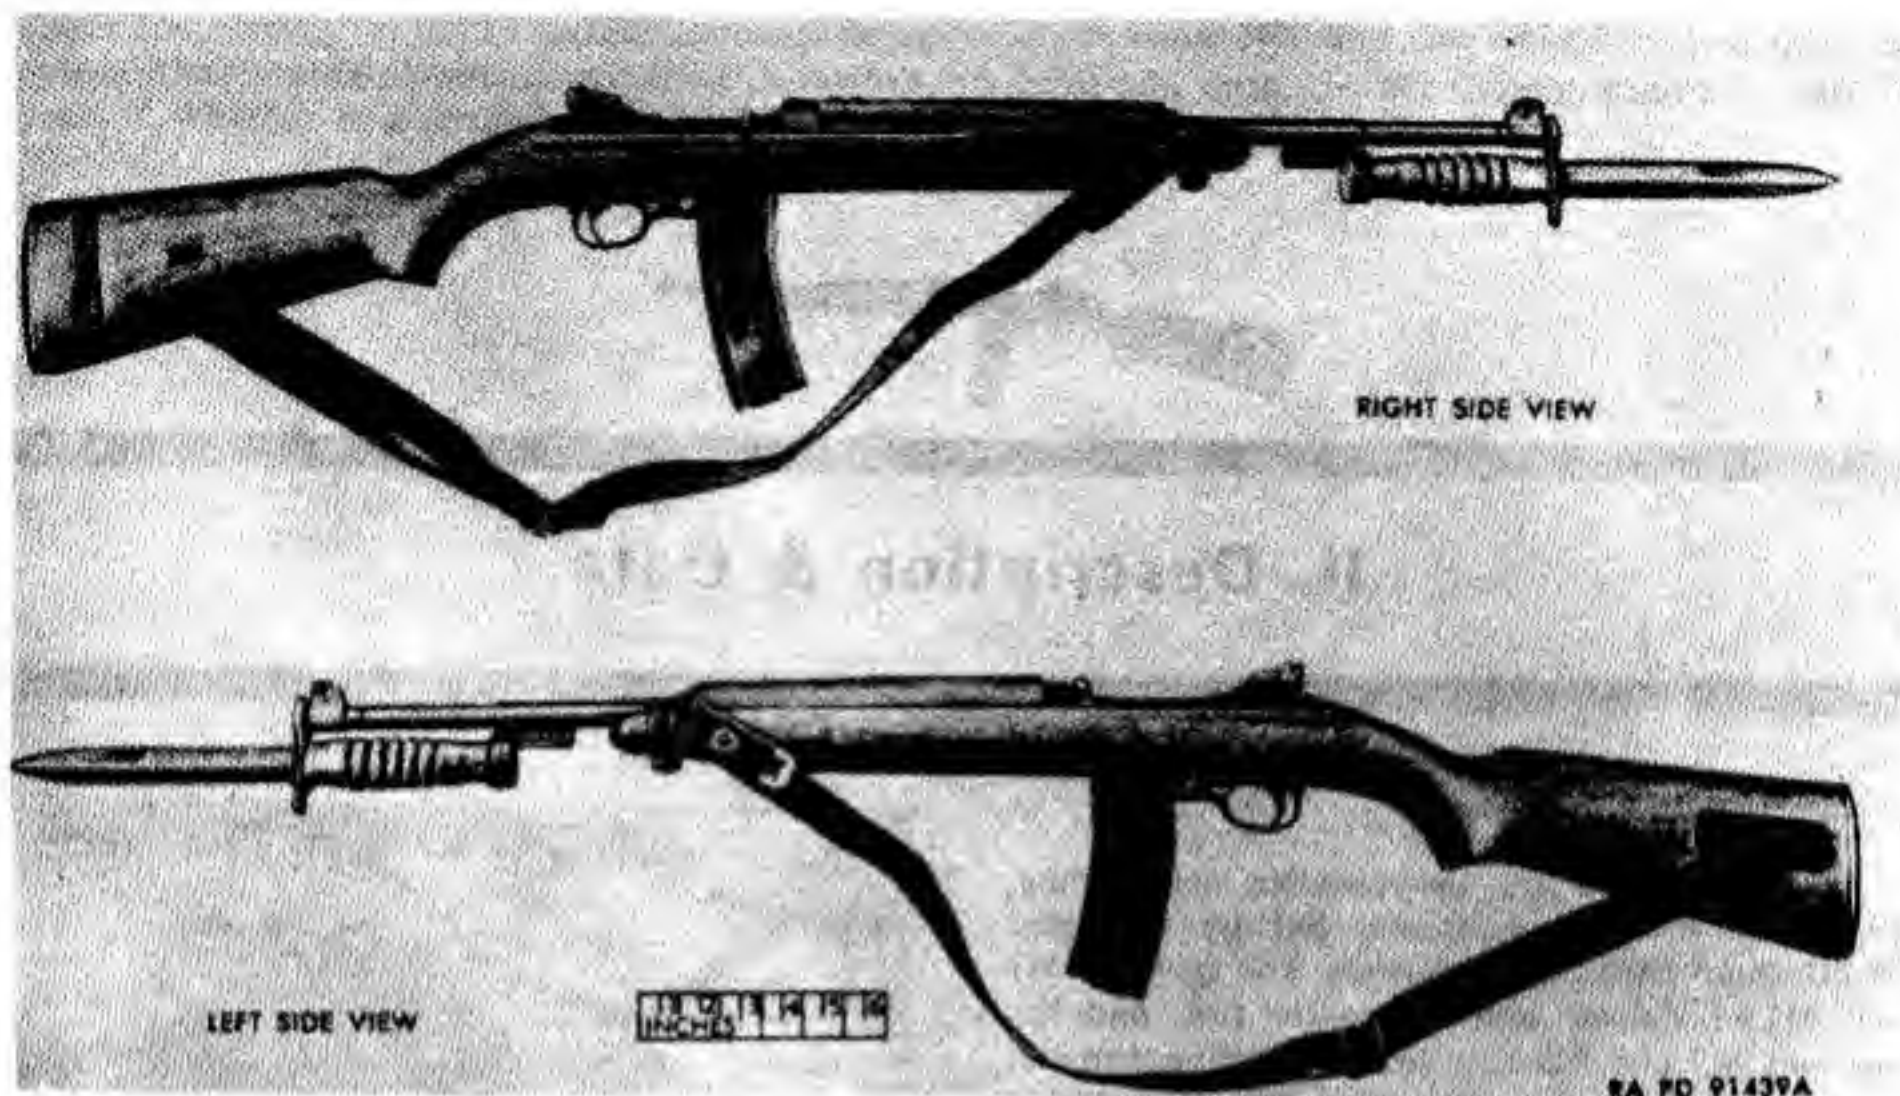

Figure 3. Cal. .30 carbine M2.
c. Cal. .30 Carbines M2 and M3 (Figs. 3 and 3a). The carbine M2 is the same as the M1 except for differences in design of certain components and the addition of others (*d* below), which permit the M2 to deliver either semi-automatic or full automatic fire. The carbine M3 is the same as the M2 except that the rear sight is not included and the top of the receiver is designed to accommodate special sighting equipment (sniperscope) issued by the Corps of Engineers. Information on the sniperscope may be found in TM 5-9341.